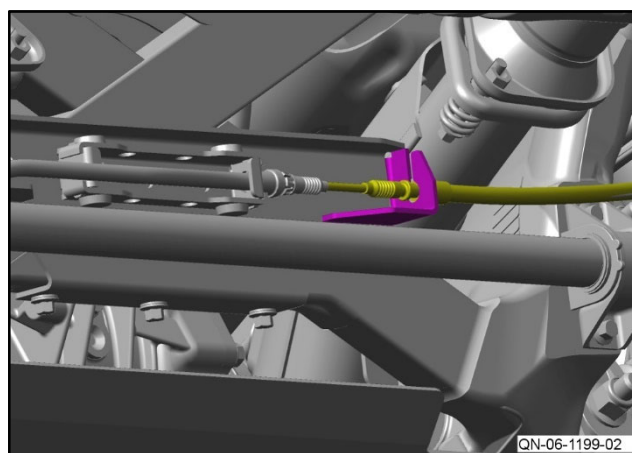

Figure 5
6. Release the park brake cable from the park brake bracket (refer to Figure 5).